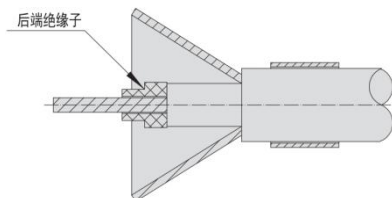

Figure 1.3
③ Assemble the rear end insulator on the cable center conductor, and the rear end insulator tail is close to the cable insulation medium (as shown in Figure 1.3).